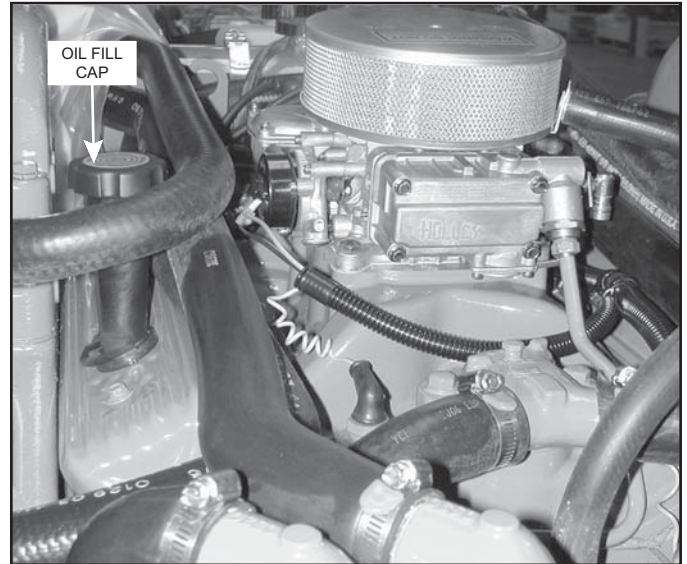

Figure 10-19 Engine Oil Fill (Typical)
4. Fill the engine with the recommended oil, see OIL REQUIREMENTS, through the oil fill location on the valve cover (Figure 10-19).